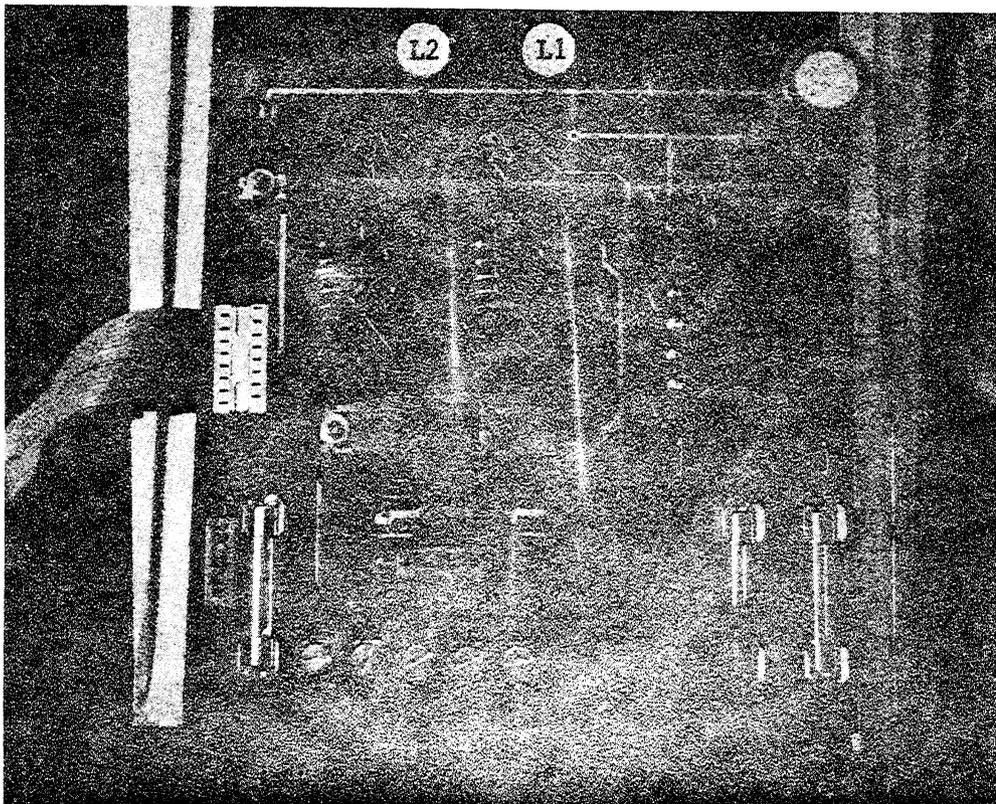
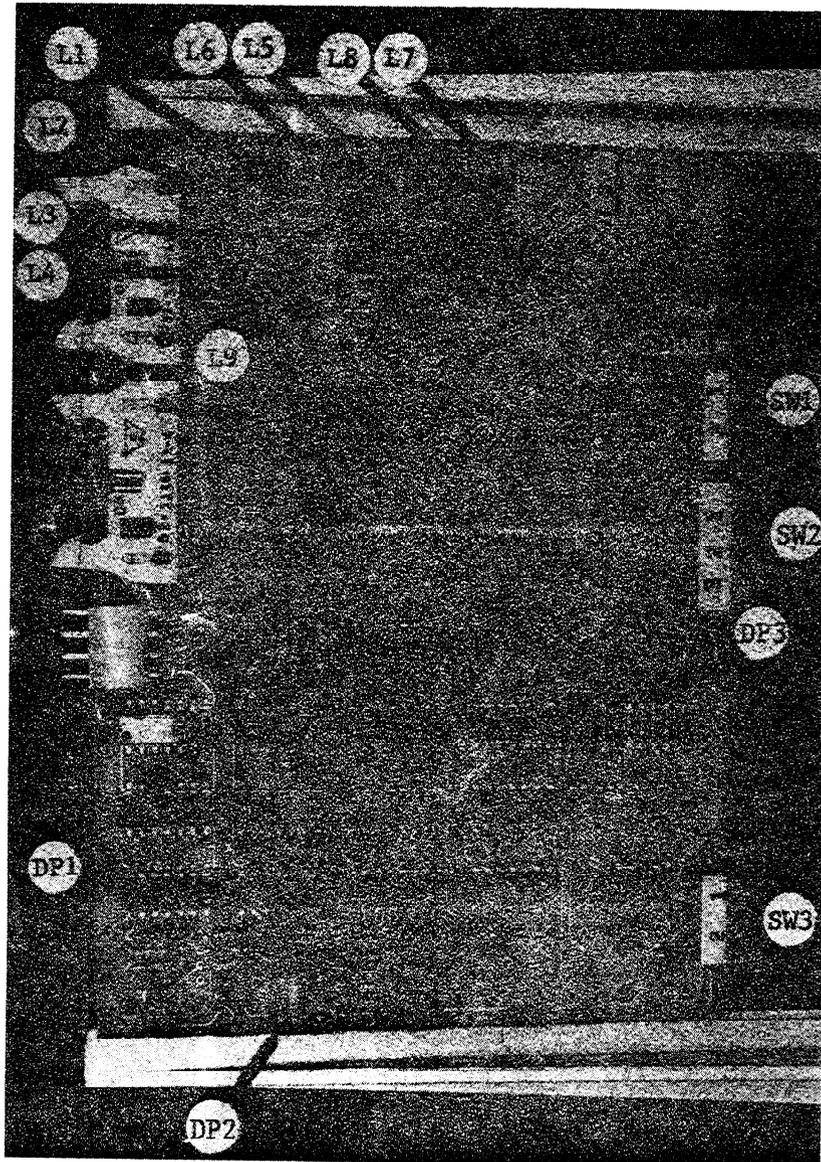
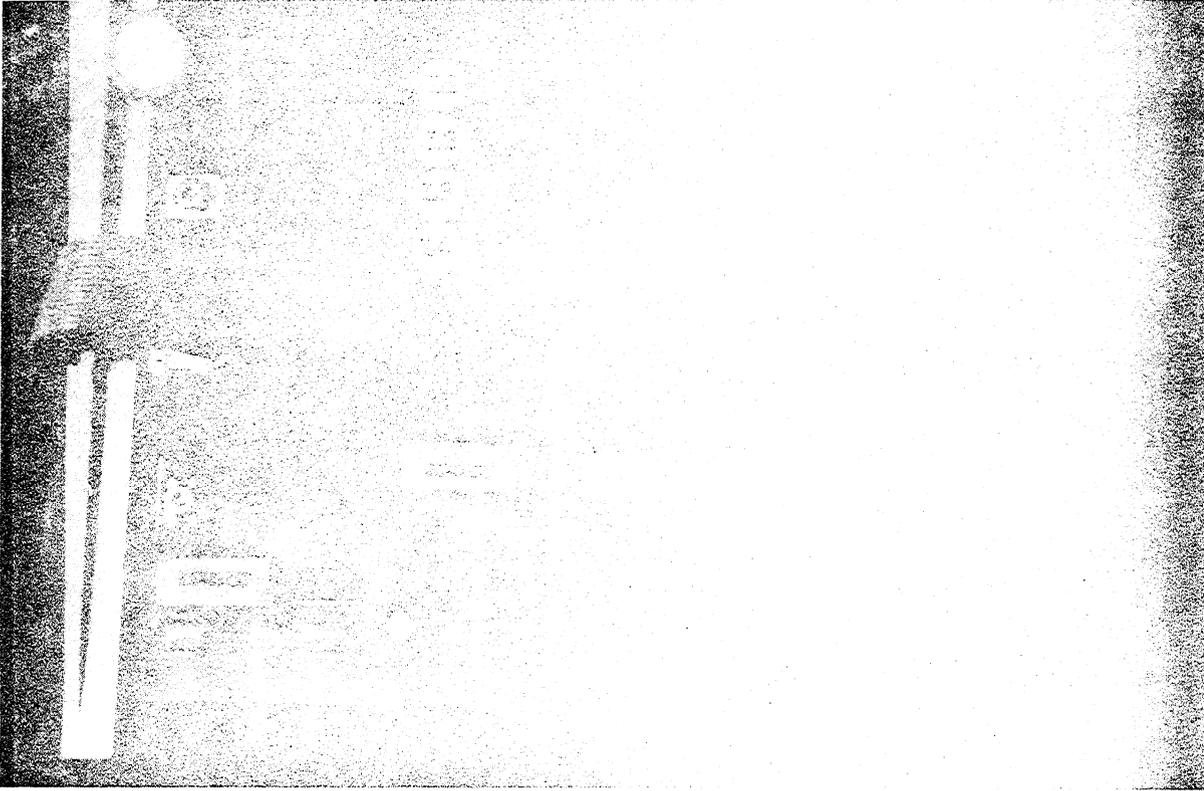

FIGURE 3
FIGURE 4
FIGURE 3
Consists of the same components shown in Figure 1 except the I/O board (Item 3) is not as large. The I/O 2 board is shown in Figure 3. The face side of the CPU board (Figure 4) will have a plug in location DP3 with "2 comp" printed right side up. Note that the same CPU board is used for all 3 basic units, consequently, the light emitting diodes L1, L2, L3 and L4 representing compressors 1,2,3, and 4 respectively will be physically in place on a SSPC-2 even though L3 and L4 should never light. The legend on the cover of an SSPC 2 may even have L3 and L4 identified as compressors 3 and 4. Again check the plug in location DP-3 to determine which type of program is in the control board.
Consists of basically the same components as shown in Figure 1 except the I/O 4 board shown (also see Figure 5) may be an I/O 3 board. The I/O 3 board will be physically the same size as the I/O 4 board but will have fewer components and will not have terminals 11 and 12. The component side of the CPU board (see Figure 4) will have a plug in location DP-3 with "3 Comp" printed right side up. The same conditions apply to L4 on the CPU board (Figure 4) on a SSPC-3 as applied to LED 3 and 4 on a SSPC-2.
Consists of the components shown in Figure 3. The board (see Figure 4) will have a plug in the center of the board printed right side up.
- (3.) Whenever the fast timing switch SW3 on the CPU board (See Figure 4) is in position "2".
The standard SSPC has a 3 digit LED display which can display the following with the different positions of SW2 on the CPU board (Figure 4).
CPU board is also equipped with 9 LED status lights (see Figure 4). As described previously, Lights L1-L4 indicate which compressors the SSPC has turned on. The other indicator lights indicate the following:
The I/O Boards also have indicator lights, one for each compressor (See Figs. 3 and 5. These lights should correspond to the compressor indicator lights on the CPU board (Figure 4 L1-4).
SW1 on the CPU board (see Figure 4) allows a serviceman to override the SSPC's control of the compressors and turn all compressors on. Position "1" is for normal operation. Position "2" is for SSPC override.
- (2.) The override switch on the CPU board (labeled SW1 on Figure 4) should be in the "1" position (up) for normal operation.
- (3.) The display select switch on the CPU board (labelled SW2 on Figure 4) should be in the "2" position (middle).
- (4.) The fast timing switch on the CPU board (labeled SW3 on Figure 4) should be in the "1" position. The "1" position is the standard timing mode.
Now locate the cut in pressure potentiometer (it is an 18 turn device labeled Cut In on Figure 4). Using a small flat screw driver adjust the potentiometer until the display pressure corresponds to the desired cut in pressure setting.
The cut out point can be set by first observing the displayed cut in pressure setting (SW2 in "2" position) then switching SW2 to "3" position. The cut out setting is now displayed. Subtract the cut in from the cut out to determine the differential. The differential can be changed by adjusting the 18 turn potentiometer on the CPU board labeled Cut Out (See Figure 4) until properly set.
- D. Locate the Override Switch SW1 on the CPU board. (See Figure 4). Place in the overridden position (Position 2).